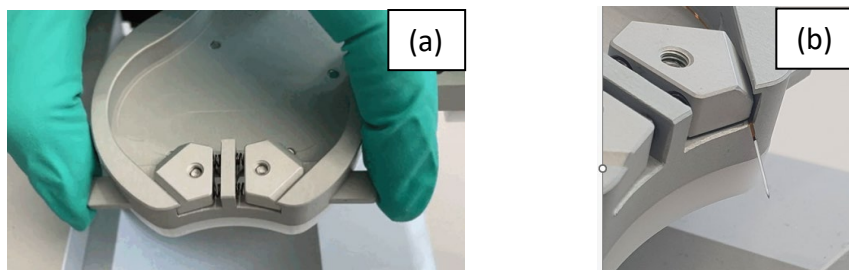

Figure 111: Open the emitter clamp on the DBO source (a). Insert the emitter by placing it on the bottom of the DBO oven before releasing the emitter clamp (b)
10. Place the first column into the double barrel oven. The emitter clamps are spring loaded. Open them by pressing on the levers (Figure 111 a) and carefully place the emitter onto the bottom of the oven plate before releasing the emitter clamp (Figure 111 b).